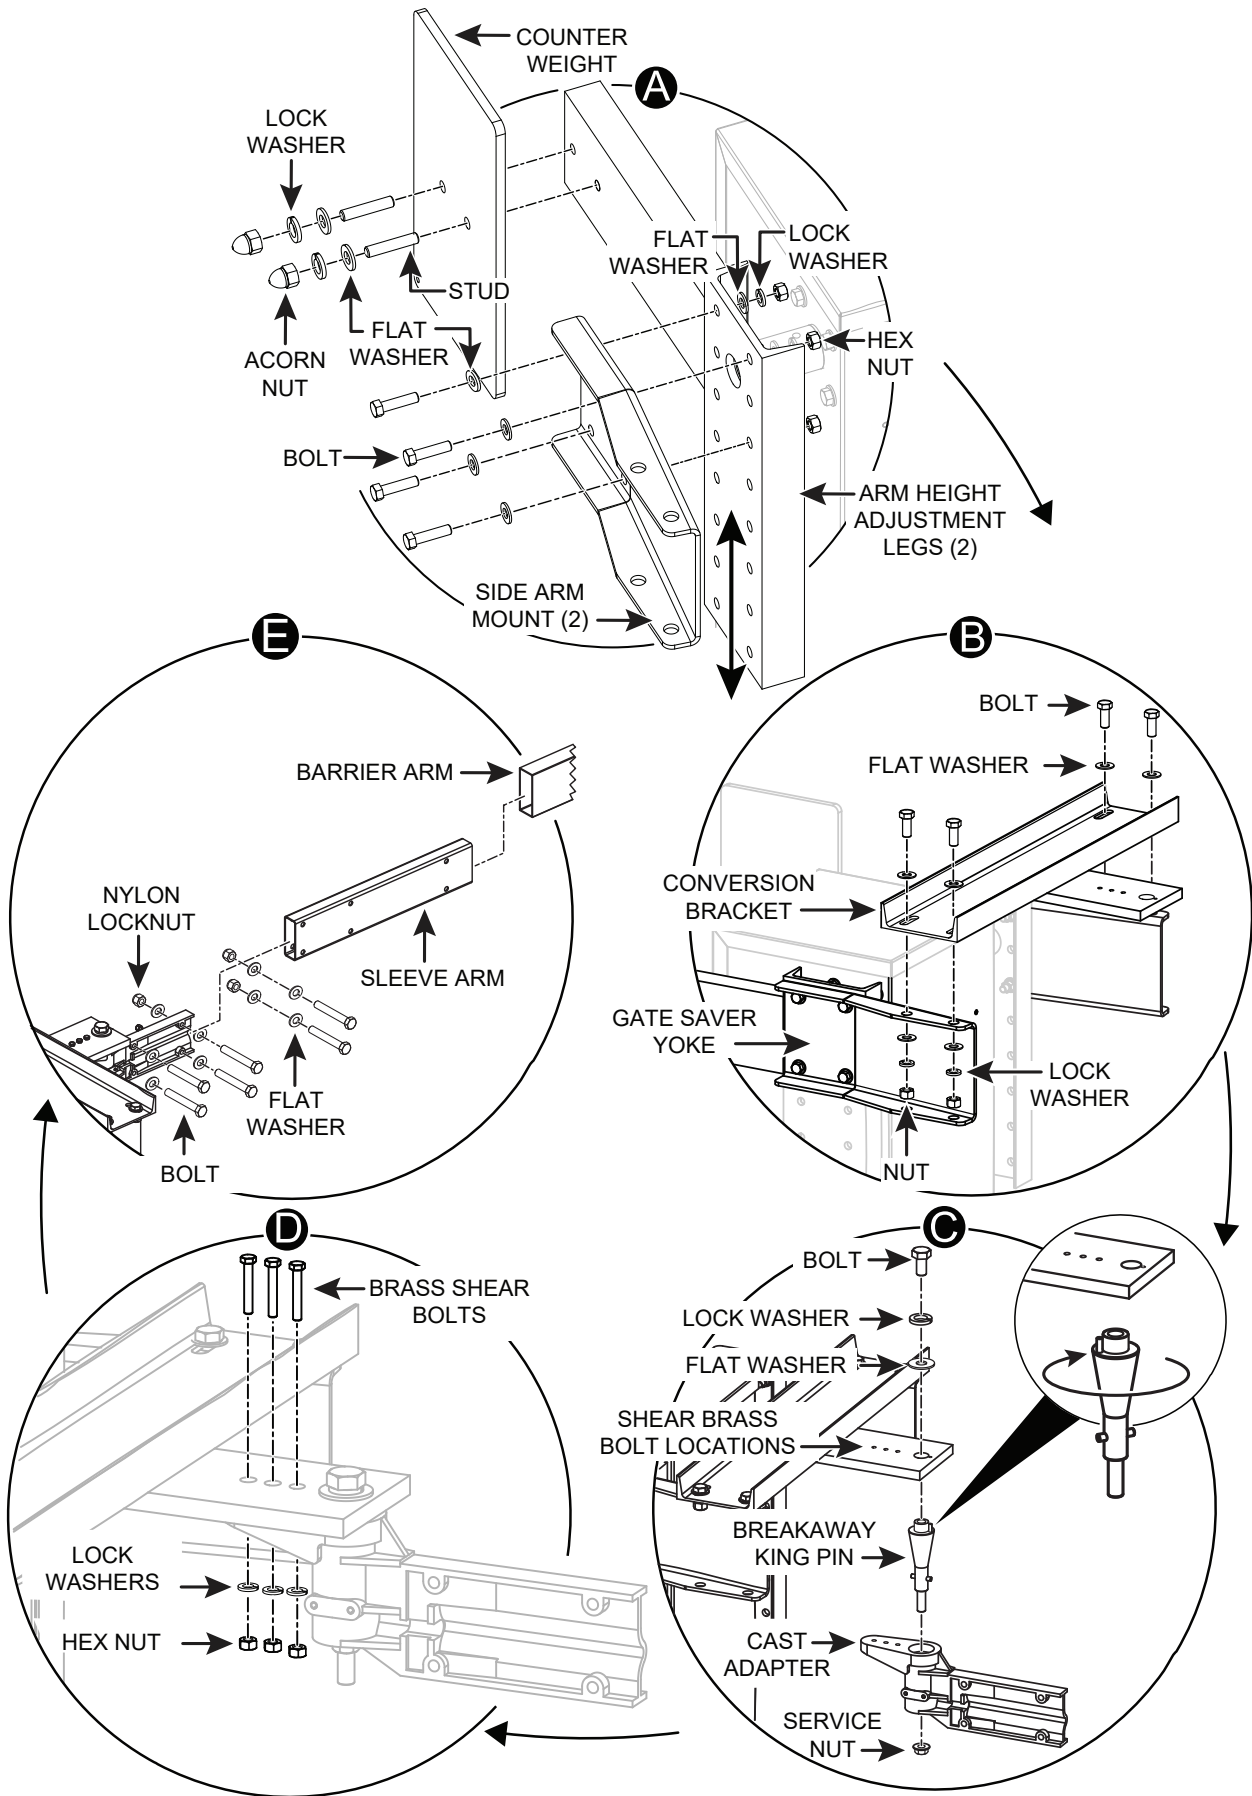

Figure 1. StrongArmDOT 28 Breakaway Arm Installation Instructions
1. If necessary, reposition operator side arm mounts on arm height adjustment legs to adjust operator arm height. See **Figure 1, A**.
3. Using a socket and ratchet, secure conversion bracket to two Gate Saver Yokes using four bolts, eight flat washers, four lock washers, and four nuts. See **Figure 1, B**.
4. Using an open-ended wrench, remove the bolt, lock washer, and flat washer from the breakaway king pin head attached to the cast adapter. See **Figure 1, C**.
5. Rotate breakaway king pin so alignment pin aligns with cast adapter shear brass bolt mounting locations (3). See **Figure 1, C**.
6. Align cast adapter and breakaway king pin with the forward panel of the conversion bracket. Use an open-ended wrench to resecure bolt, lock washer, and flat washer to breakaway king pin head. See **Figure 1, C**.
7. Using a socket and ratchet, secure three brass shear bolts, lock washers, and hex nuts to the cast adapter and conversion bracket. See **Figure 1, D**.
8. Using a socket and ratchet, secure the gate saver sleeve arm to cast adapter, and gate saver barrier arm to gate saver sleeve arm using six bolts, flat washers, and nylon locknuts. See **Figure 1, E**.